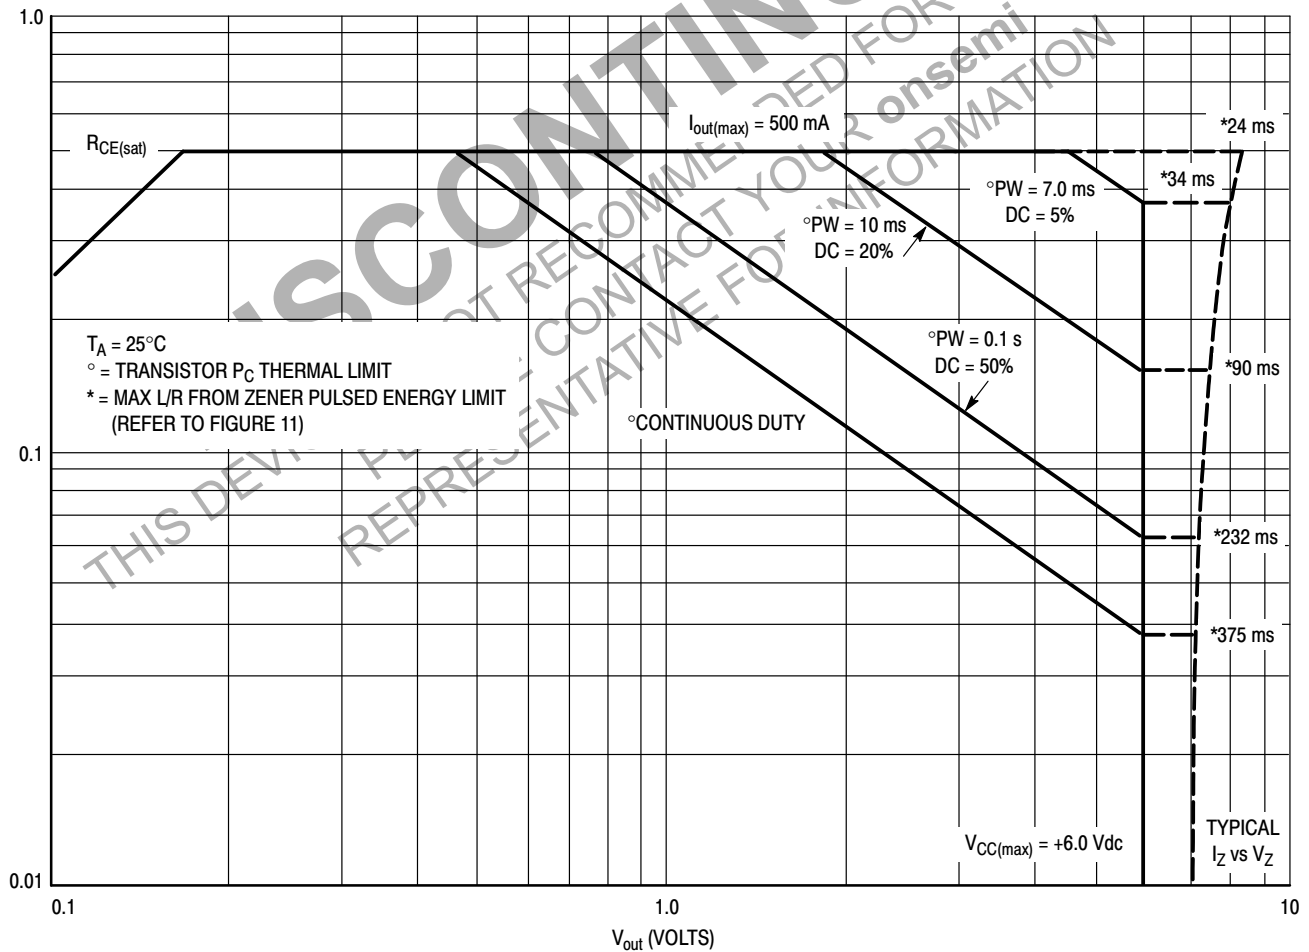
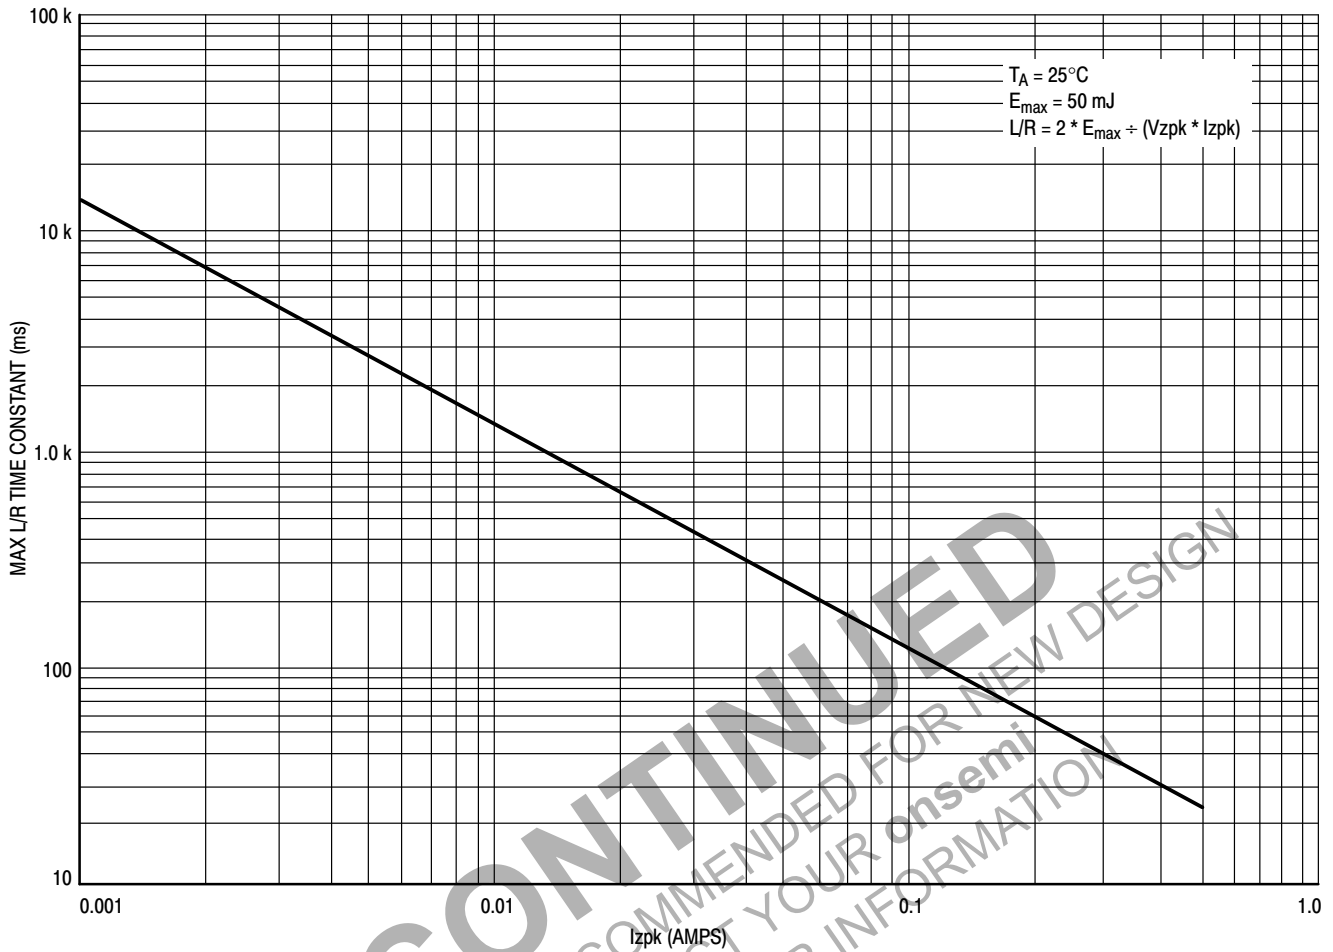

Figure 10. Safe Operating Area for MDC3105LT1
Figure 11. Zener Repetitive Pulse Energy Limit on L/R Time Constant for MDC3105LT1
Figure 10 is the Safe Operating Area (SOA) for the MDC3105. Device instantaneous operation should never be pushed beyond these limits. It shows the SOA for the Transistor "ON" condition as well as the SOA for the Zener during the turn-off transient. The max current is limited by the I_{zpk} capability of the Zener as well as the transistor in addition to the max input current through the resistor. It should not be exceeded at any temperature. The BJT power dissipation limits are shown for various pulse widths and duty cycles at an ambient temperature of 25°C . The voltage limit is the max V_{CC} that can be applied to the device. When the input to the device is switched off, the BJT "ON" current is instantaneously dumped into the Zener diode where it begins its exponential decay. The Zener clamp voltage is a function of that BJT current level as can be seen by the bowing of the V_Z versus I_Z curve at the higher currents. In addition to the Zener's current limit impacting this device's 500 mA max rating, the clamping diode also has a peak energy limit as well. This energy limit was measured using a rectangular pulse and then translated to an exponential equivalent using the 2:1 relationship between the L/R time constant of an exponential pulse and the pulse width of a rectangular pulse having equal energy content. These L/R time constant limits in ms appear along the V_Z versus I_Z curve for the various values of I_Z at which the P_d lines intersect the V_{CC} limit. The L/R time constant for a given load should not exceed these limits at their respective currents. Precise L/R limits on Zener energy at intermediate current levels can be obtained from Figure 11.
3. Use Figures 10 and 11 with the SOA notes above to insure that instantaneous operation does not push the device beyond the limits of the SOA plot.